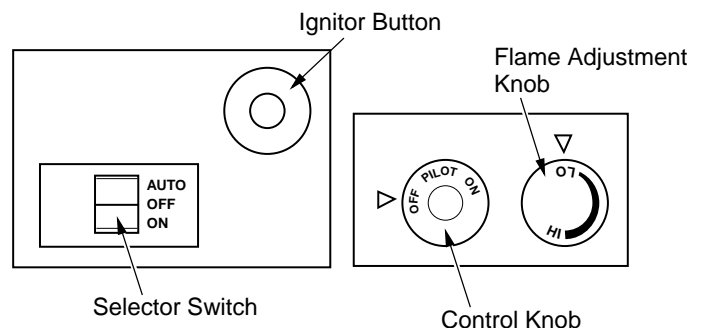

Figure 29 - Control Knob and Ignitor Button Location (Shown as Supplied, No Control Options)
- Wait five (5) minutes to clear out any gas. Then smell for gas, including near the floor. If you smell gas, STOP! Follow "B" in the safety information, column 1. If you don't smell gas, go to the next step.
- Press in and turn control knob counterclockwise  to the PILOT position. Press in control knob for five (5) seconds (see Figure 29).